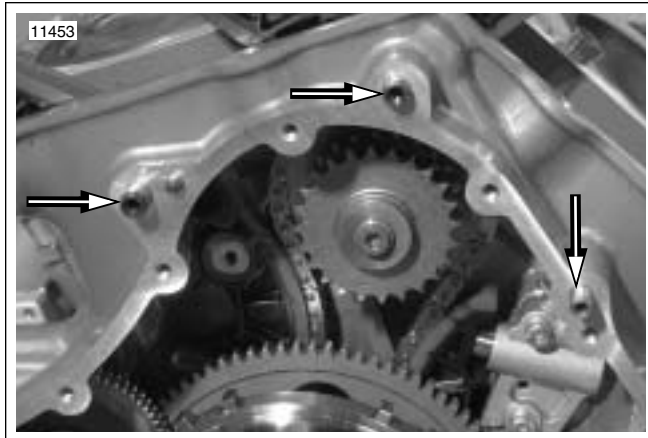

Figure 3-39. Cam Chain Tensioner Guide Pins
4. See Figure 3-39. Use CAM CHAIN TENSIONER GUIDE PIN REMOVER/INSTALLER (HD-45312) to remove cam chain tensioner pins.